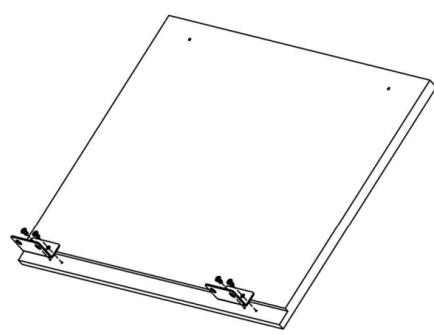

Fig. 2
3. Prepare the overlay panel by drilling installation holes for the handle and the bottom mounting brackets (20×4 mm). Then, attach the mounting brackets to the panel using the provided Phillips self-tapping screws. (**Fig. 2**)